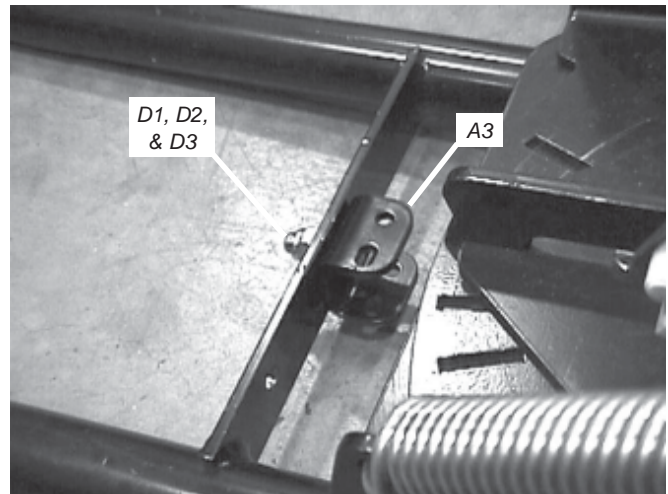

Figure 5 Installed J-bolt Bracket
9. Attach the J-bolt bracket (A3) to the center hole in the plow crossmember using a 3/8" dia x 1" long bolt (D1) as shown in figure 5. The bracket should be mounted on the blade side of the crossmember with the side flanges parallel to the ground. Terminate the bolt with a 3/8" dia flat washer (D2) and 3/8" dia nylock nut (D3). Tighten the bolt and nut to a recommended torque of 25 ft-lb.